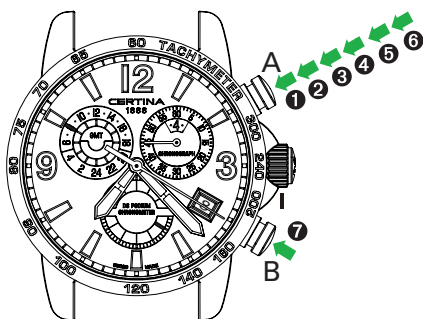

Fig. 2
- Time 2 readout (as per Fig. 2)**